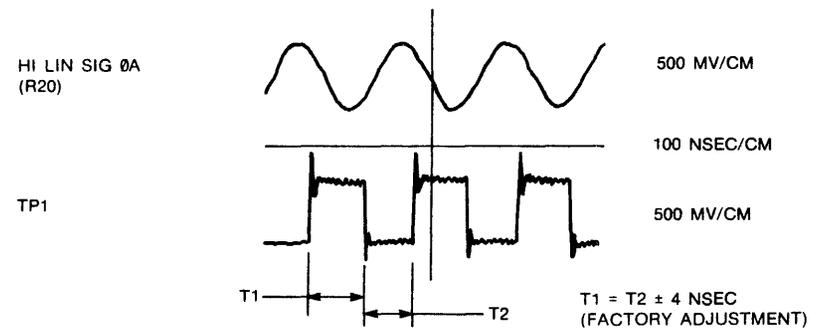

FIGURE 3-67. DIFFERENTIATOR SYMMETRY
c. **Test Point Waveforms.** The waveforms of Test Points are shown in Figures 3-67 to 3-71 for reference only. Note that HI LIN SIG 0A (D19-R20) in these figures is not an actual read-back head signal, and is the waveform of a sine-wave oscillator output with a frequency of 3.22 MHz.